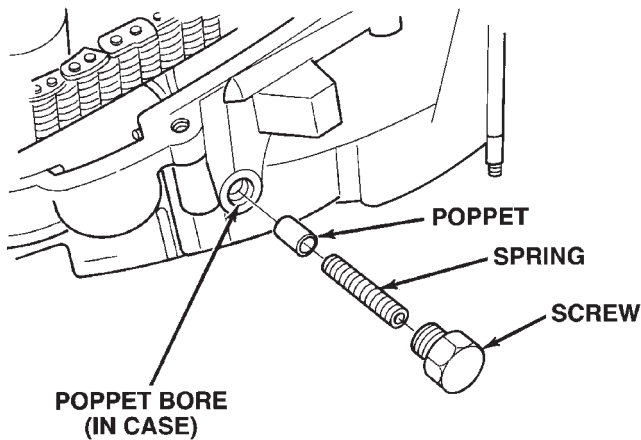

Fig. 19 Poppet Components
(1) Remove poppet plug, spring and plunger (Fig. 19).